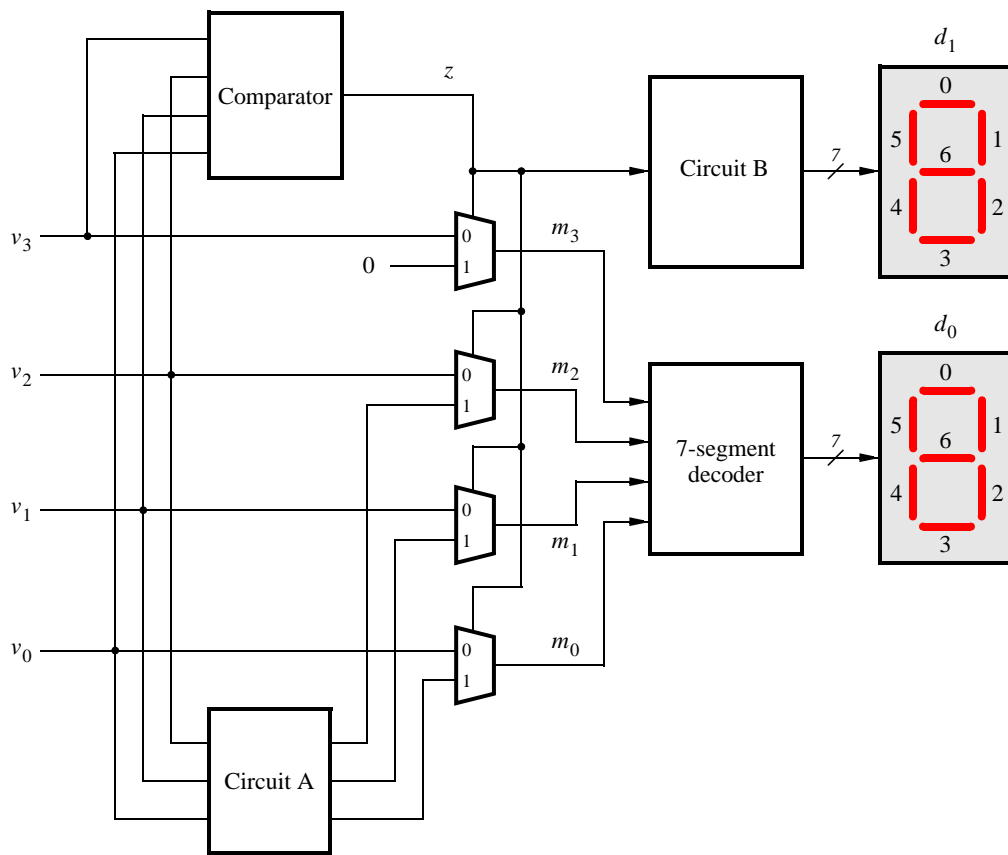

Figure 1: Partial design of the binary-to-decimal conversion circuit.
You are to design a circuit that converts a four-bit binary number $V = v_3v_2v_1v_0$ into its two-digit decimal equivalent $D = d_1d_0$. Table 1 shows the required output values. A partial design of this circuit is given in Figure 1. It includes a comparator that checks when the value of V is greater than 9, and uses the output of this comparator in the control of the 7-segment displays. You are to complete the design of this circuit by creating a VHDL entity which includes the comparator, multiplexers, and circuit *A* (do not include circuit *B* or the 7-segment decoder at this point). Your VHDL entity should have the four-bit input V , the four-bit output M and the output z . The intent of this exercise is to use simple VHDL assignment statements to specify the required logic functions using Boolean expressions. Your VHDL code should not include any IF-ELSE, CASE, or similar statements.
3. Augment your VHDL code to include circuit B in Figure 1 as well as the 7-segment decoder. Change the inputs and outputs of your code to use switches SW_{3-0} on the DE1 board to represent the binary number V , and the displays $HEX1$ and $HEX0$ to show the values of decimal digits d_1 and d_0 . Make sure to include in your project the required pin assignments for the DE1 board.